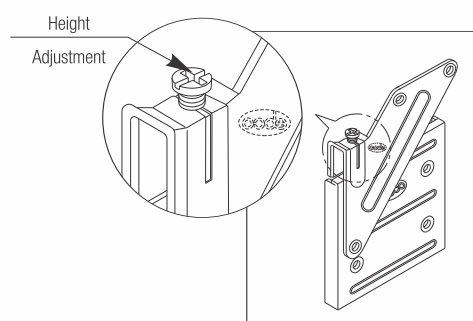

Fig.4
4. Cabinet can be adjusted if crooked with height adjustment (Refer Fig. 4).